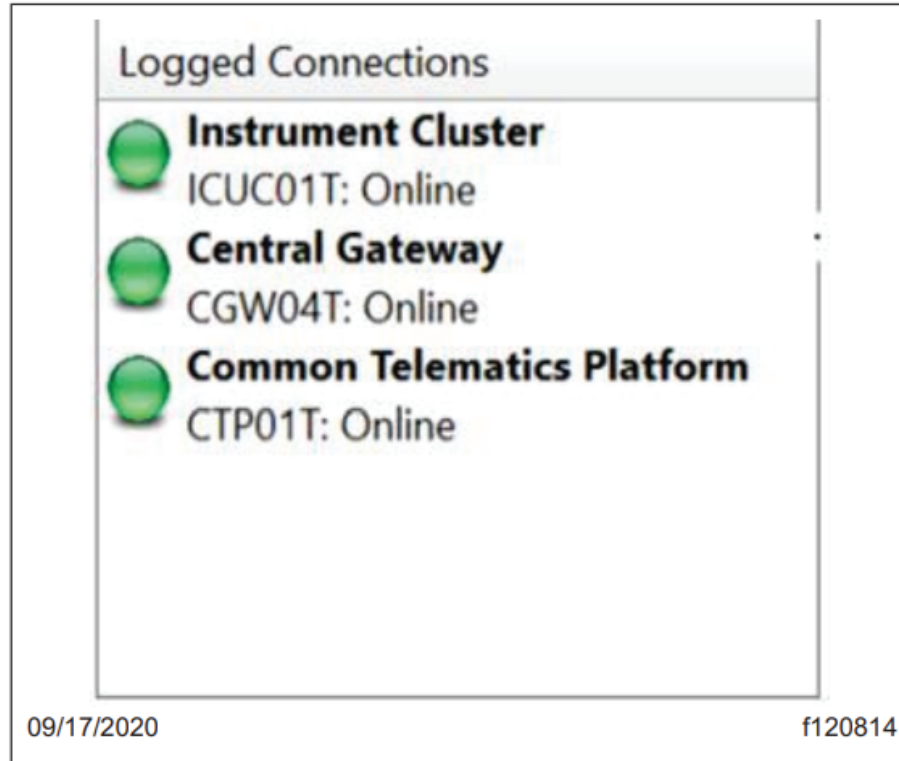

Figure 7 DiagonsticLink Connections Panel
20. Wait until all three controllers are fully connected and the connection indicators turn green. See Figure. 7